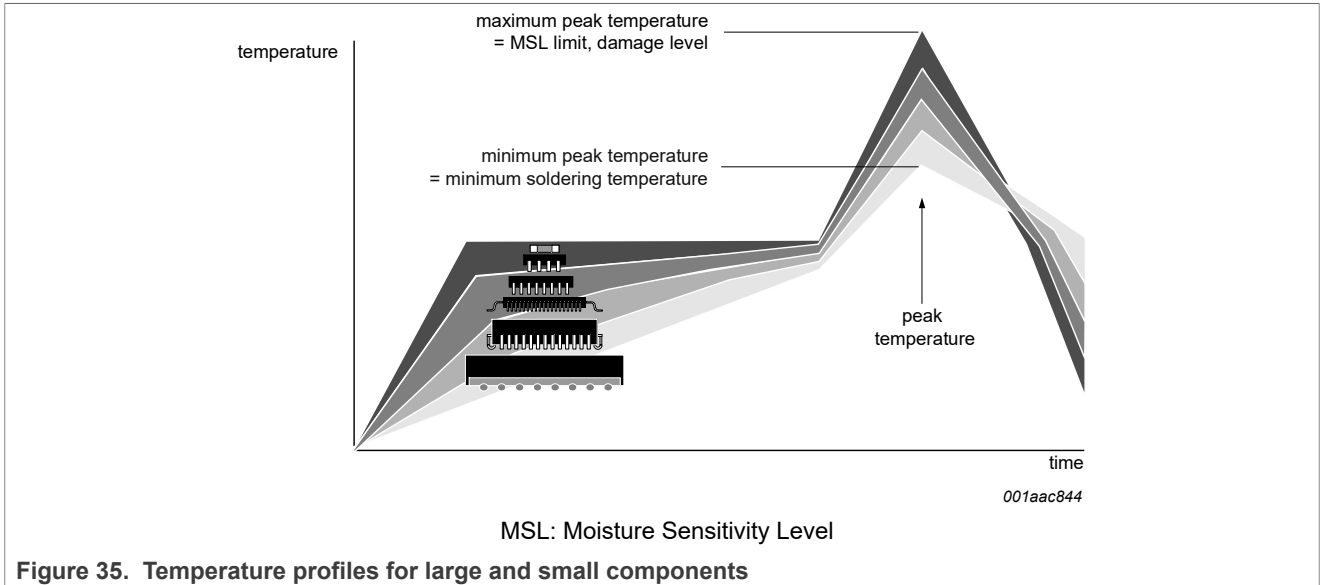

Figure 35. Temperature profiles for large and small components
- Lead-free versus SnPb soldering; note that a lead-free reflow process usually leads to higher minimum peak temperatures (see Figure 35) than a SnPb process, thus reducing the process window
Studies have shown that small packages reach higher temperatures during reflow soldering, see Figure 35.